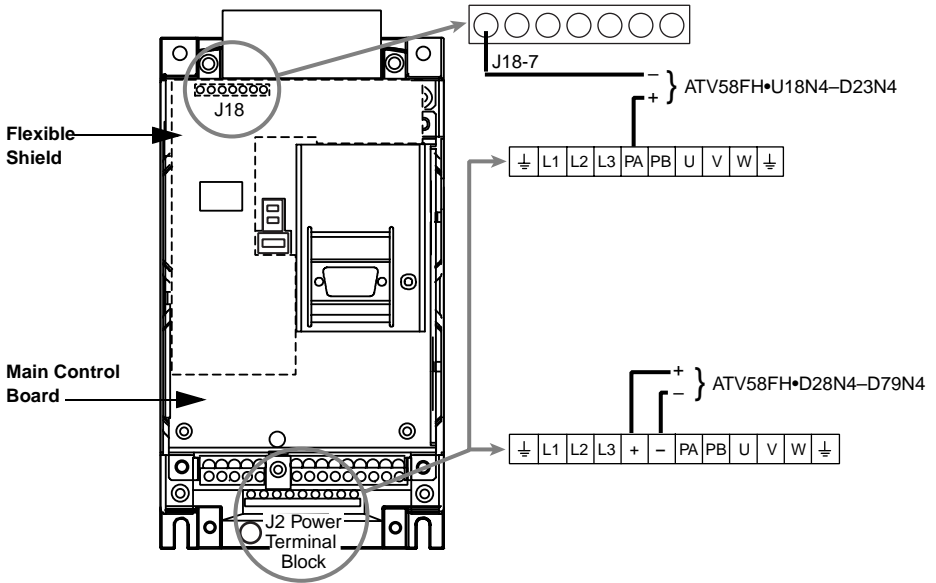

Figure 37: DC Bus Measurement Terminals
The DC bus voltage level is determined by monitoring the (+) and (-) measurement points. Their location varies by drive controller model number as listed in Table 26 on page 88 and shown in Figure 37 on page 89. The drive controller model number is listed on its nameplate.
3. Read the model number of the drive controller from the nameplate and identify the corresponding (+) and (–) measurement points from Table 26 above and Figure 37 on page 89.